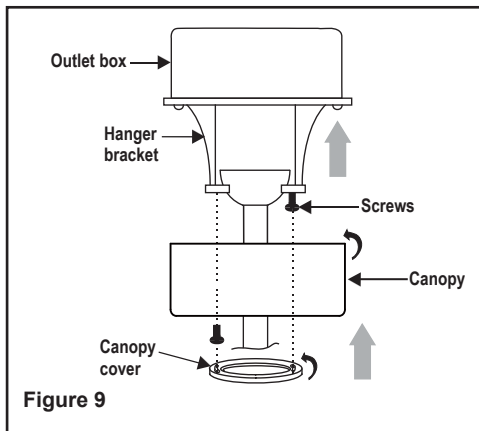

Figure 9
Step 2. Slide the canopy up to mounting bracket and place the key hole on the canopy over the screw on the mounting bracket, turn canopy until it locks in place at the narrow section of the key holes. (Fig. 9)